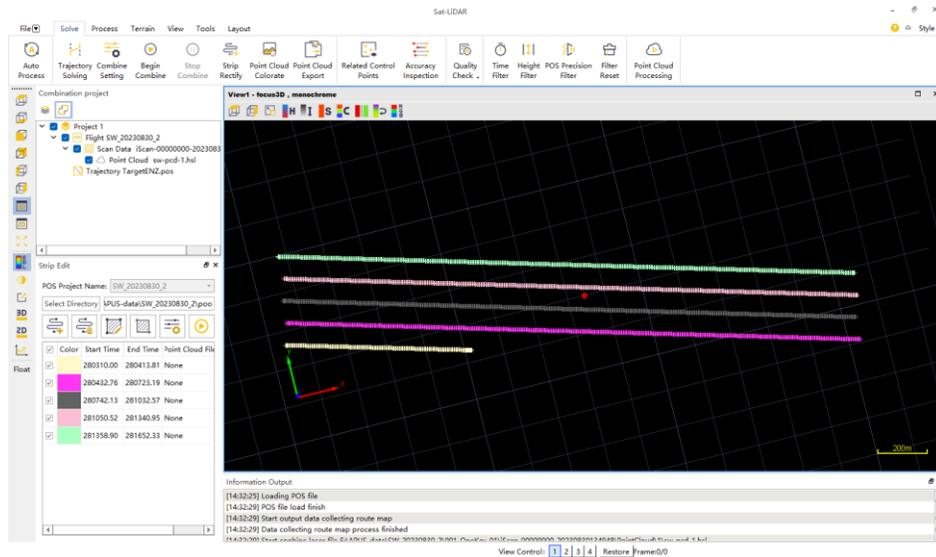

Figure 3-57 Local trajectory solving
- (1) uncheck the "Eliminate redundant data " ;
- (2) check "Solve all Projects" .
5. After the configuration is completed, click <Start to calculate> and then the software starts to solve the trajectory pos, after the solving is completed, the solved pos trajectory is loaded in the main view and loaded into the editing column of the aerial tape (Figure 3-57).